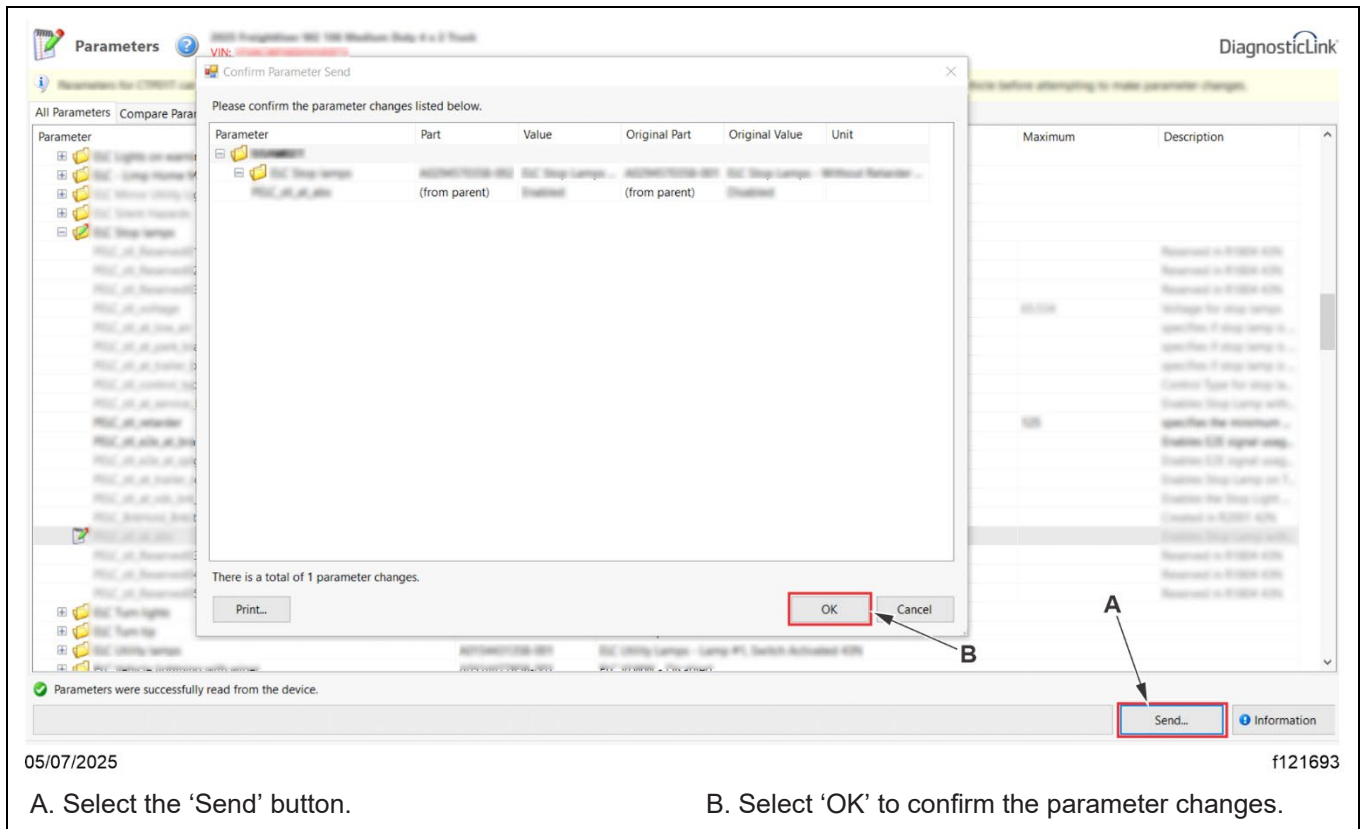

Fig. 2, Writing the Parameter Changes to the Device
13. Select the 'Send' button to write the parameter changes to the SSAM02T ECU in the vehicle. A window pop-up appears asking to confirm the parameter changes; select 'OK.' See Fig. 2.